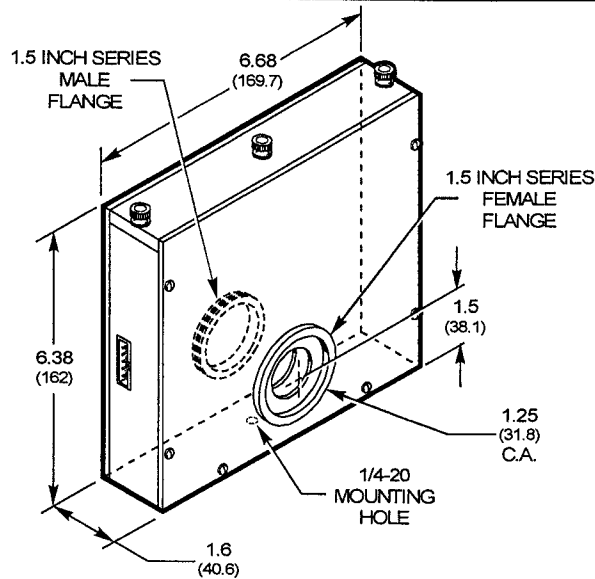

Fig. 1 Dimensional diagram of 74041 Filter Wheel Head.
Fig. 1 shows a diagram of the Filter Wheel Head. One side has a 1.5 Inch Series Female flange, the other side has a 1.5 Inch Series male flange. You can mount the wheel directly to an Oriel instrument or component via one of the flanges. To flange mount the Filter Wheel Head:
1. Turn the Filter Wheel Head upside-down, and remove the center set screw on the bottom plate (refer to Fig. 1).